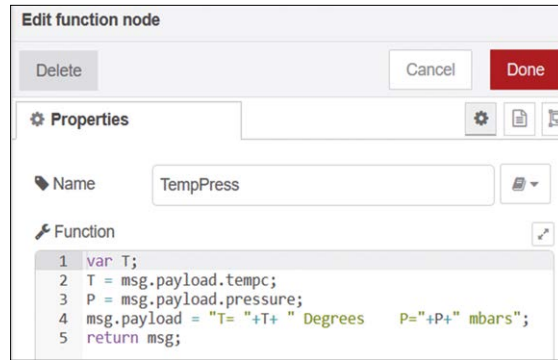

Figure 4.52 Contents of the function node
- Create a **function** node (Figure 4.52), name it as **TempPress**, and enter the following statements inside this node: